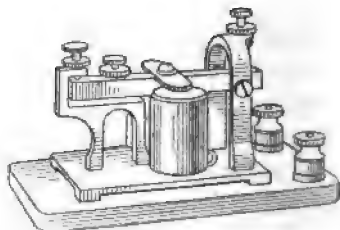

FIG. 131. — Telegraph sounder.
*Sounder.* The sounder is shown in figure 131. This consists of two electromagnets, and over these a bar, pivoted at one end. Just over the electromagnets is the armature. Ordinarily the bar is kept back by a spring so that the armature does not touch the electromagnet. The distance that the bar can be pulled down is controlled by a screw. When the key of the sender is closed, the current passes through the coils of wire and the electromagnet becomes magnetized, thus pulling down the armature. When the key is open the current ceases to flow through the coils so